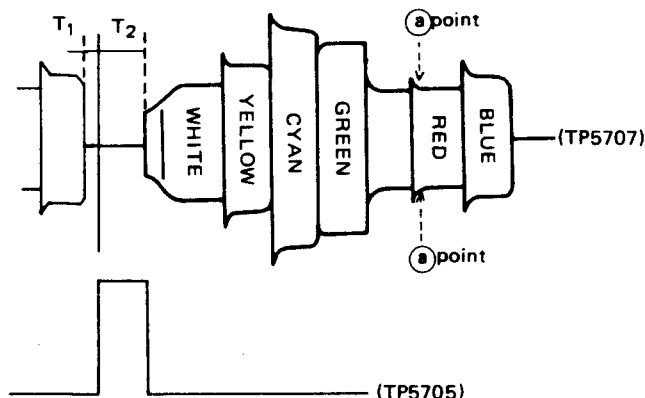

Figure 2-19.
2. Connect an oscilloscope to TP5702 and TP5705, and check that the output of chroma signal is as shown in Fig. 2-19.
Adjust T5702 so that the output at the point (a) is as shown in Fig. 2-19.